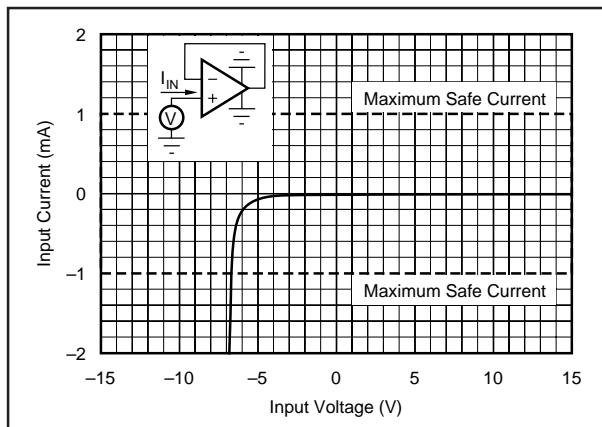

FIGURE 2. Input Current vs Input Voltage with $\pm\text{V}_{\text{CC}}$ Pins Grounded.
NOTES: (1) Stresses above these ratings may cause permanent damage. (2) Packages must be derated based on $\theta_{JA} = 90^\circ\text{C}/\text{W}$ for PDIP and $100^\circ\text{C}/\text{W}$ for SOIC. (3) For supply voltages less than $\pm 18\text{VDC}$, the absolute maximum input voltage is equal to $+18\text{V} > V_{IN} > -V_{CC} - 6\text{V}$. See Figure 2. (4) Short circuit may be to power supply common only. Rating applies to $+25^\circ\text{C}$ ambient. Observe dissipation limit and T_J .
Unlike BIFET amplifiers, the **Difet** OPA124 requires input current limiting resistors only if its input voltage is greater than 6V more negative than $-\text{V}_{\text{CC}}$. A $10\text{k}\Omega$ series resistor will limit input current to a safe level with up to $\pm 15\text{V}$ input levels, even if both supply voltages are lost (Figure 2).